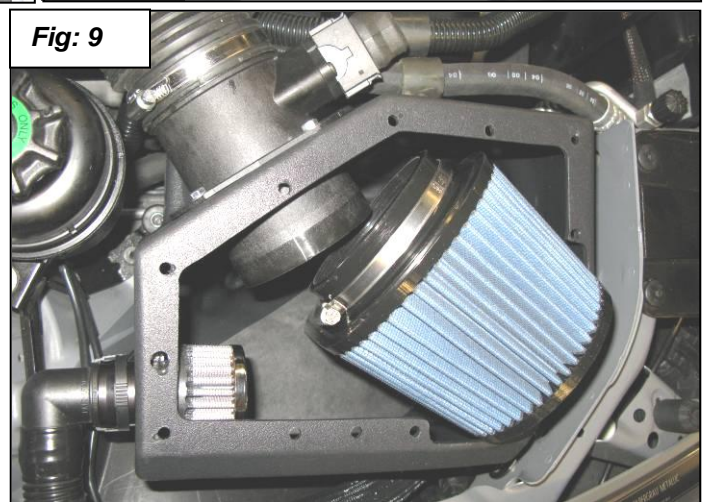

Fig: 6
9. Install the rubber inlet hoses onto the inlet air ducts as shown in figure 6.